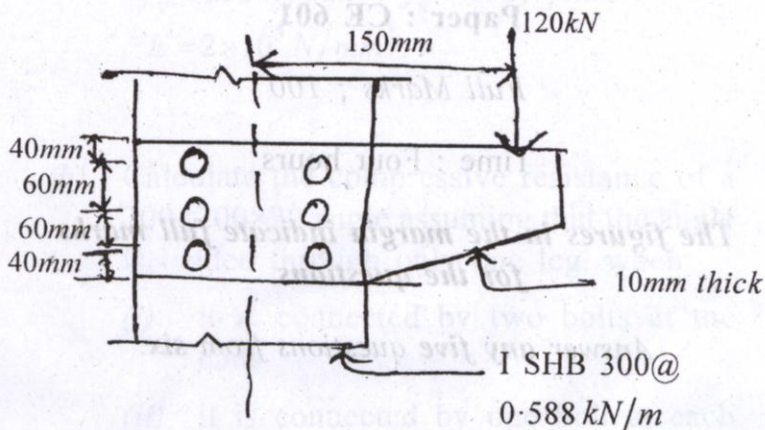

figure 1
2. Design a bolted connection for a bracket carrying an eccentric load of 120kN at a distance of 150mm from the centre of line of an ISHB 300@ 0.588kN/m as shown in figure 1. 20